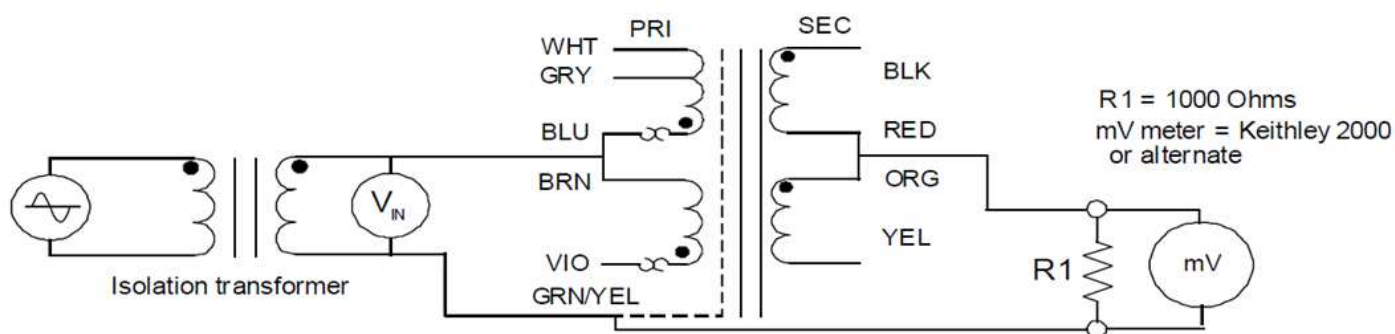
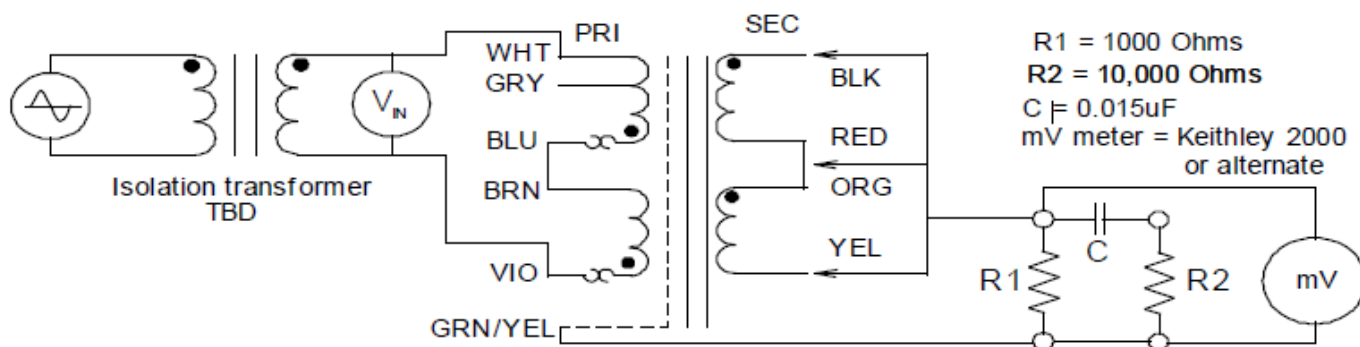

Figure 1
Figure 2
8. Earth Leakage: ≤10μA (See Fig. 1), Patient Leakage: ≤ 100μA (see Fig. 2)